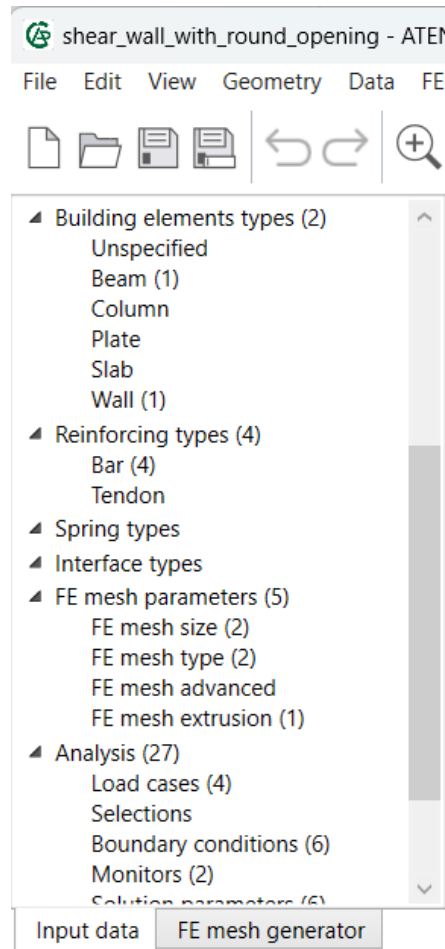
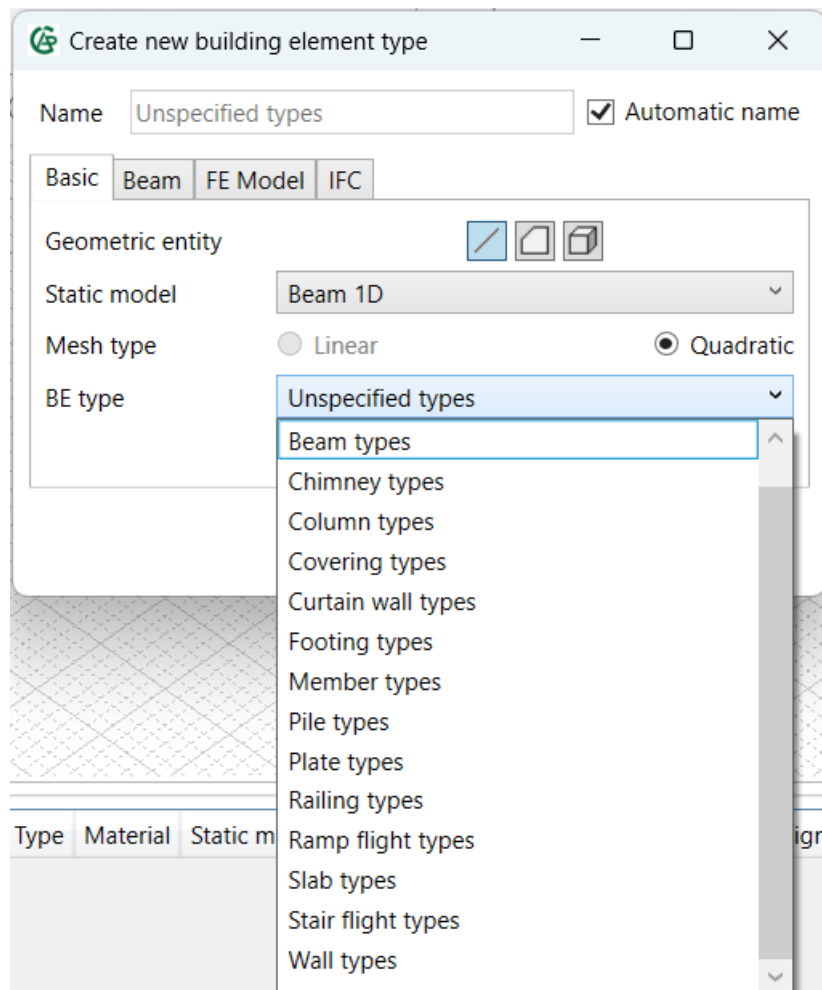

Fig. 5-1 Input data tree – Building element types.
Fig. 5-2 Building element types options.
**Building element types** interconnect model features including geometry, material and finite element mesh. The main **Building element types** are directly in the **Input data tree** (Fig. 5-1) while other types are available to choose through **Unspecified Building element type**, see complete list of options in Fig. 5-2. However, the choice of building element type is not affecting the model at the moment, it is rather preparation for import and export of IFC files that are going to be included in **ATENA-PRE** in foreseeable future.